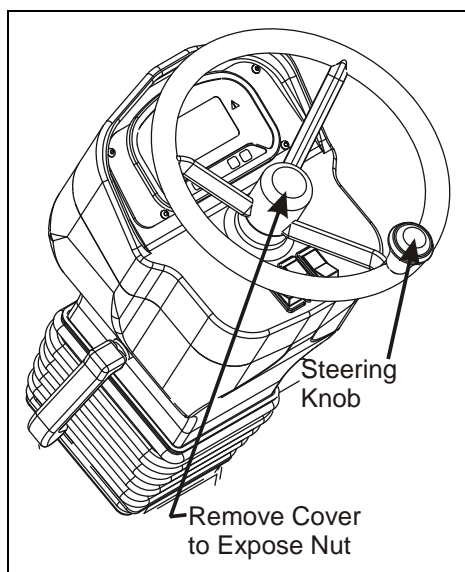

Figure 3-28: Steering Wheel Assembly
1. Pry the plastic cover from the steering wheel using your finger tips. If you cannot grab the cover, you can start it by carefully using a small pry bar and gently prying upwards. **DO NOT** force it or the cover may crack. See Figure 3-28.